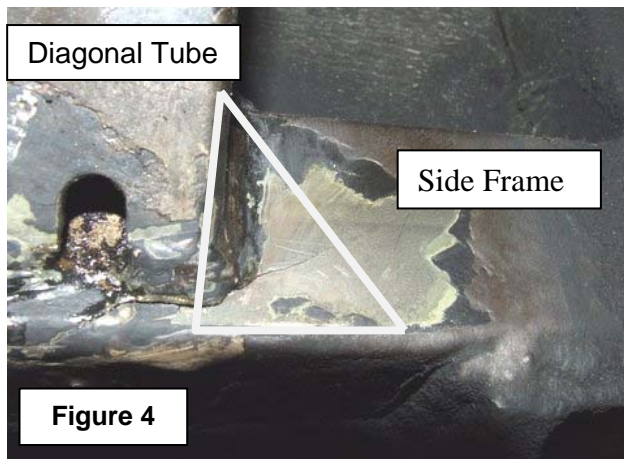

Figure 4: Diagonal tubes directly welded to side frame.
Using an angle grinder remove all undercoating and paint from and around the joints as shown in Figure 4.
- 6) Referring to figure 4 and 4A, install and tack weld the reinforcing parts in place as shown.